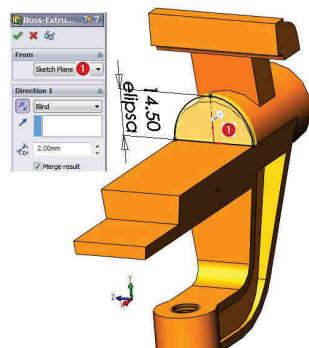

Fig. 2.14
**22 Trasare contur eliptic:** Comanda Sketch – Fig. 2.14 – plan ①.
**23 Extrudare contur eliptic:** comanda Extruded Boss/Base  - Fig. 2.14 - Blind /  $\text{D}_1$  2 mm distanță / .
**22 Sketching of the elliptical contour:** The Sketch command – Fig. 2.14 – plane ①.
**23 Extrudation of the elliptical contour:** the command Extruded Boss/Base  - Fig. 2.14 – Blind /  $\text{D}_1$  2 mm distance / .